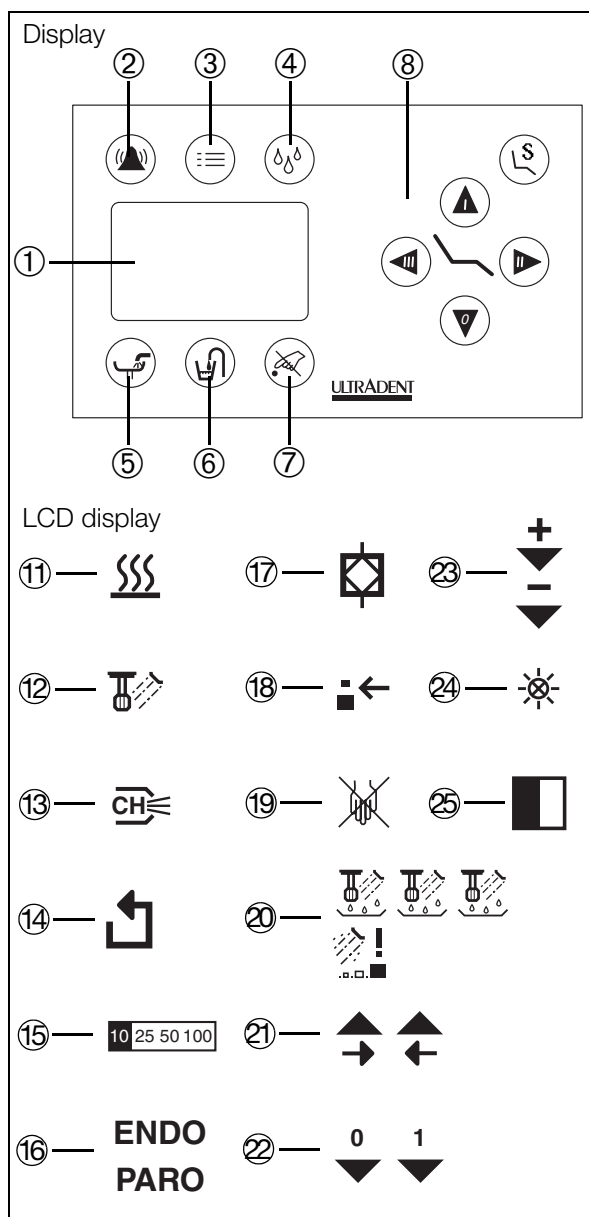

Fig. 88
- Remove the cases from all the syringes and place the syringes themselves in the corresponding adapter cases (④, ⑤ or ⑥) in such a way that the water flow buttons on the syringes are activated.
- Then immediately activate instrument rinsing by pressing key ④ (Fig. 88).
The screen displays the symbol ⑳ (Fig. 88).
- Pressing the rinse key ④ (Fig. 88) during rinsing cancels the rinse process.